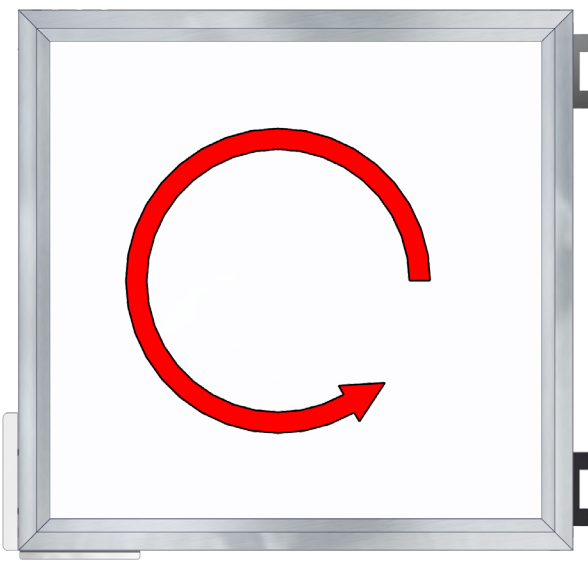
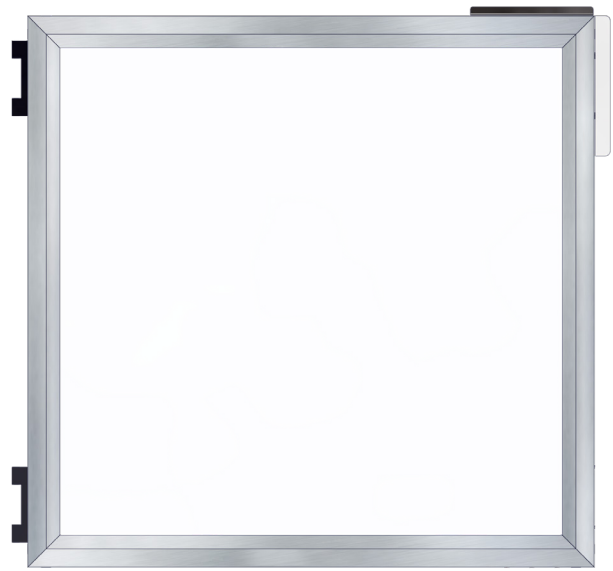

Fig. 169: Rotate Modified Door
Fig. 170: Door Rotated to New Installation Position
4. With the door handle and the cam lock plate in their new positions, rotate the door 180° (Fig. 169). Figure 170 shows its orientation when reinstalling the door on its new hinge position.